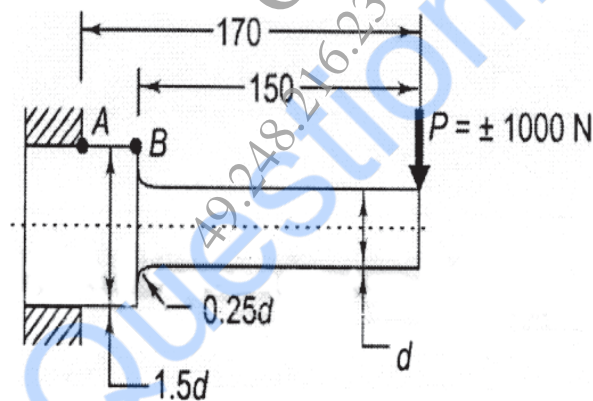

Fig1.
b) A cantilever beam made of cold drawn steel 20C8 ($S_{ut} = 540 \text{ N/mm}^2$) is subjected to a completely reversed load of 1000 N as shown in Fig1. The notch sensitivity factor q at the fillet can be taken as 0.85 and the expected reliability is 90%. Determine the diameter d of the beam for a life of 10000 cycles. Assume surface finish, size and reliability factors are 0.78, 0.85 and 0.897 respectively. Also assume $K_t = 1.35$. [12]